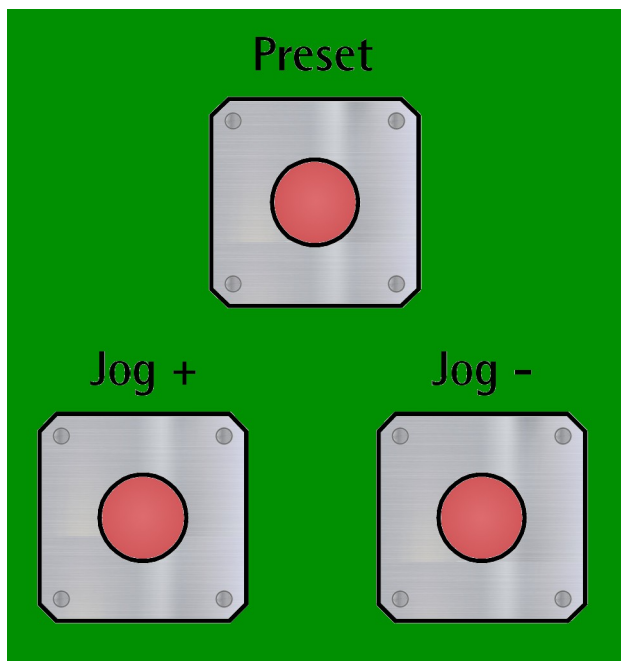

Figure 8: Preset / Jog buttons
#### 4.5 Preset / Jog buttons (Figure 8)
##### 4.5.1 JOG + and JOG – buttons (Figure 8)
**4.5.2 PRESET button (Figure 8)**